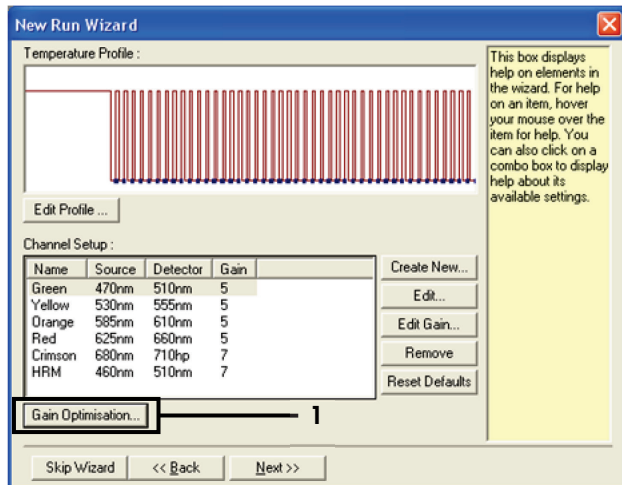

Figure 29. Gain optimization (1).
12. In the next dialog box, click **Gain Optimization** (Figure 29).